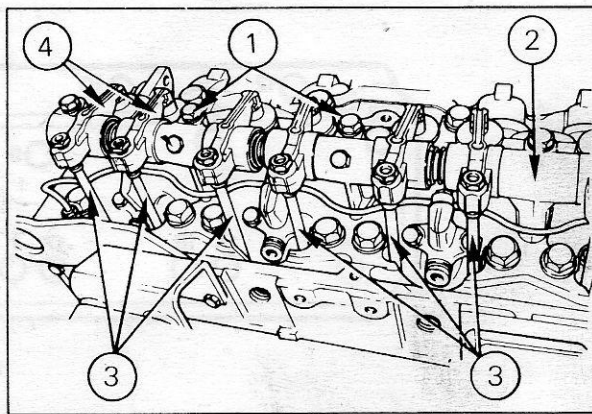

Fig. 52 - Installing Valve Gear
78. Install the pushrods and valve caps into the same positions as when removed, position the rocker shaft assembly, locating the adjuster ball ends into the push rod cups, and gradually and evenly tighten the retaining bolts to the specified torque (Fig. 52).